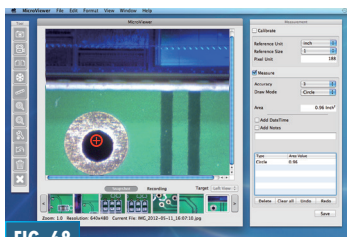

FIG. 68
4. Click and hold the button of the mouse at the center of the object (**Fig. 68**).